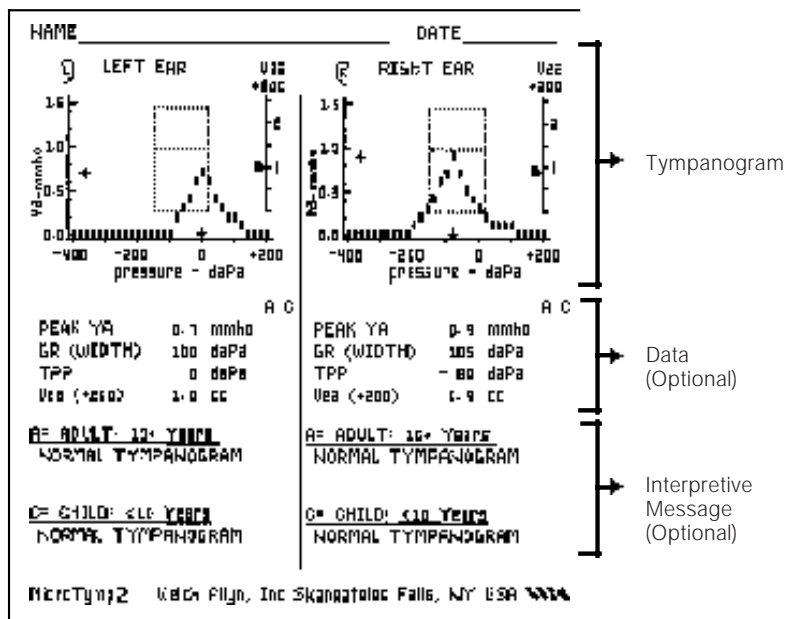

Figure 21
- The Printer/Charger has been pre-set at Welch Allyn to print a complete printout as illustrated in *Figure 21* on page 17, and to print in manual mode. To change formats or print in automatic mode, follow the instructions on page 20.
A complete tympanometric printout is shown in *Figure 21*. The printout is divided into three sections: tympanogram, data, and interpretive messages. Following is a detailed account of the information presented in each of these sections. For instructions on changing the format of the printout, see page 20.